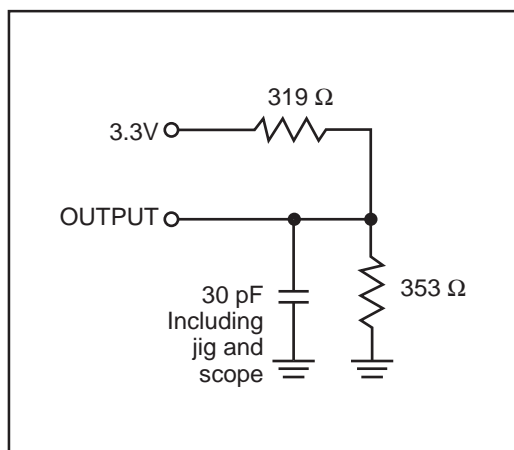

Figure 1
1. Test conditions assume signal transition times of 3 ns or less, timing reference levels of 1.5V, input pulse levels of 0V to 3.0V and output loading specified in Figure 1.
Output Load	See Figures 1 and 2
- Test conditions assume signal transition times of 3 ns or less, timing reference levels of 1.5V, input pulse levels of 0V to 3.0V and output loading specified in Figure 1.